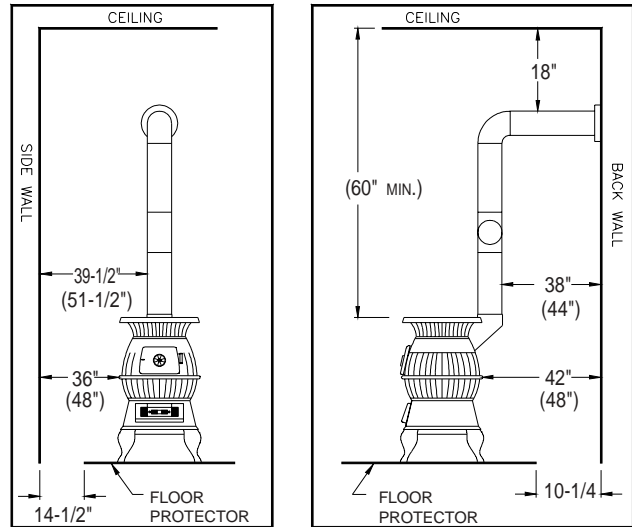

FIGURE 2 **FIGURE 3**
1. The installation of this stove must comply with your local building code rulings. Please observe the clearances to combustibles. (Refer to Figures 2 and 3) Stove must be 36" from a combustible wall (wood or plaster board) at rear or sides.
4. Use three (3) sheet metal screws in each stove pipe and /or elbow joint to firmly hold the stove pipe together. Use 6" round black/blue stove pipe, not galvanized stove pipe .
5. Recheck illustrations Fig. 2 through 7 to be sure you have the proper clearances shown from the stove and the connector pipe to combustible surfaces. NOTE: If a wall is only faced with brick or stone, consider it as a combustible wall.